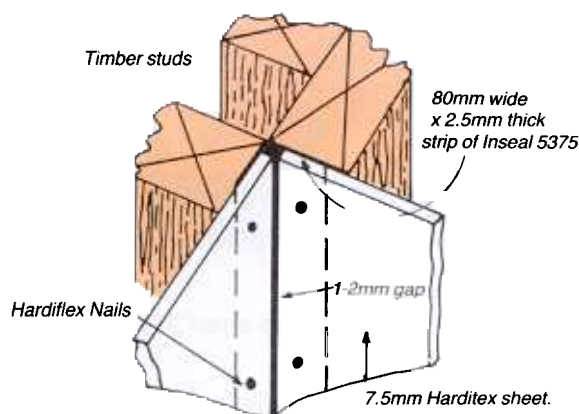

Fig. 6 Internal Corner Detail
- At internal and external corners adhere a strip of Inseal 5375 in position before fixing sheets (Refer Fig 6, 7).